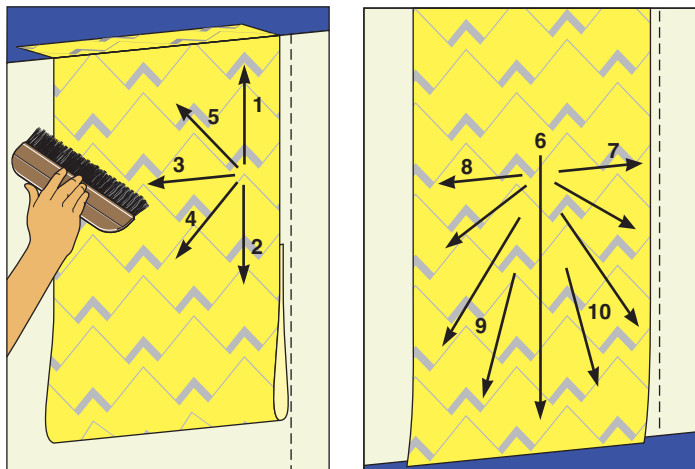

Figure 5-2:
3. Smooth the upper half of the strip as shown in Figure 5-2.
Smooth the strip as shown in Figure 5-2. (On subsequent strips, you'll work from the seam as you now work from the guideline.)